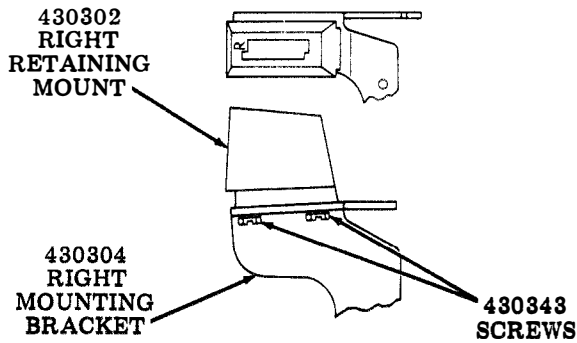

Fig. 3
4.03 Attach the 430302 right retaining mount to the 430304 right mounting bracket using two 430343 self-tapping screws. See Fig. 3. Note location of the embossed letter "R" on the 430302 right retaining mount.